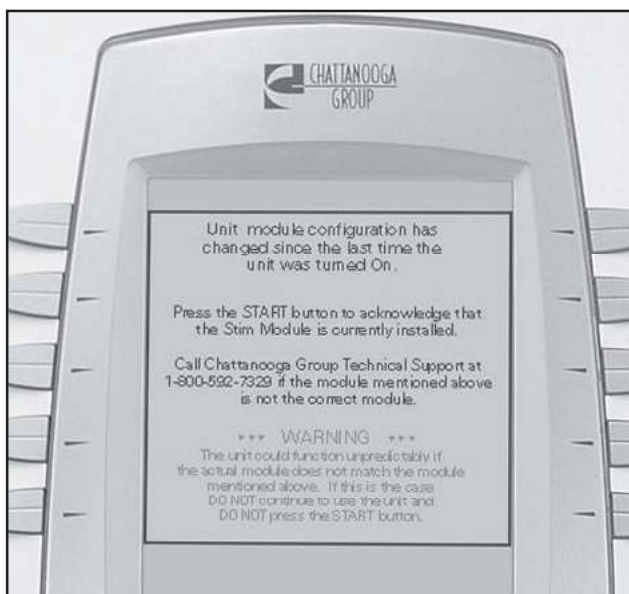

FIGURE 6.11
13. Turn the System On using the On/Off Switch. The system will automatically recognize the added module and display a configuration change message. **See Figure 6.11.**